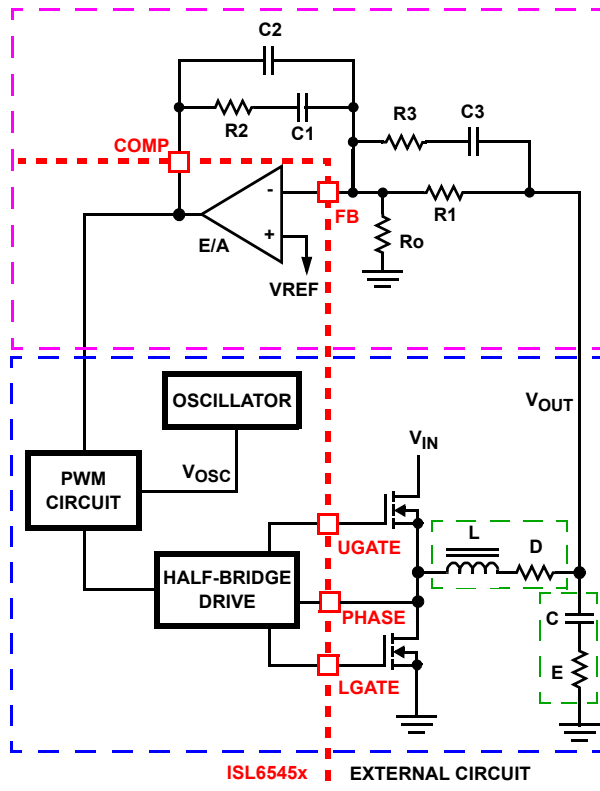

FIGURE 9. VOLTAGE-MODE BUCK CONVERTER COMPENSATION DESIGN
This section highlights the design consideration for a voltage-mode controller requiring external compensation. To address a broad range of applications, a type-3 feedback network is recommended, as shown in the top part of Figure 9.
Figure 9 also highlights the voltage-mode control loop for a synchronous-rectified buck converter, applicable to the ISL6545x circuit. The output voltage (V_{OUT}) is regulated to the reference voltage, V_{REF} . The error amplifier output (COMP pin voltage) is compared with the oscillator (OSC) modified sawtooth wave to provide a pulse-width modulated wave with an amplitude of V_{IN} at the PHASE node. The PWM wave is smoothed by the output filter (L and C). The output filter capacitor bank's equivalent series resistance is represented by the series resistor E.
The compensation network consists of the error amplifier (internal to the ISL6545x) and the external $R1$ - $R3$, $C1$ - $C3$ components. The goal of the compensation network is to provide a closed loop transfer function with high 0dB crossing frequency (F_0 ; typically 0.1 to 0.3 of F_{SW}) and adequate phase margin (better than 45°). Phase margin is the difference between the closed loop phase at F_{0dB} and 180° . The equations that follow relate the compensation network's poles, zeros and gain to the components ($R1$, $R2$, $R3$, $C1$, $C2$, and $C3$) in Figure 9. Use the following guidelines for locating the poles and zeros of the compensation network:
1. Select a value for $R1$ (1k Ω to 5k Ω , typically). Calculate value for $R2$ for desired converter bandwidth (F_0). If setting the output voltage via an offset resistor connected to the FB pin, R_o in Figure 9, the design procedure can be followed as presented.